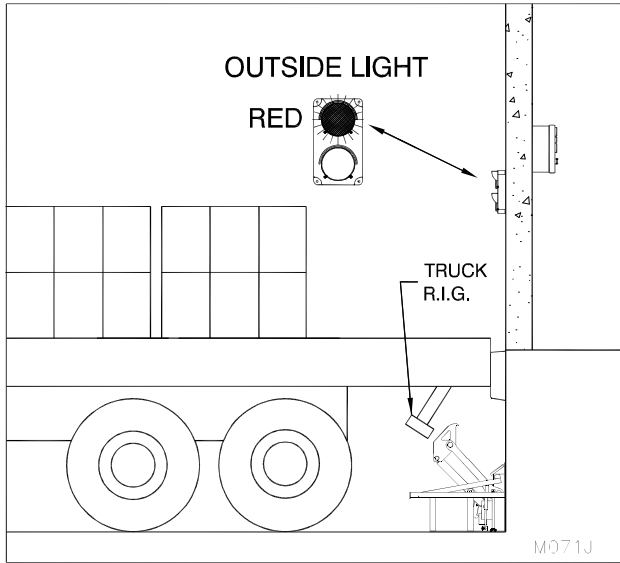
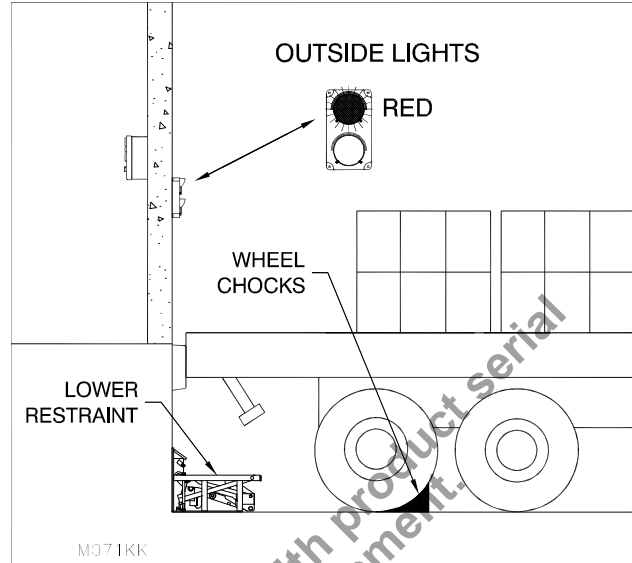

**Figure 24: Set selector switch so inside green light is illuminated indicating safe to load**
**Figure 25: Driver Signal**
5. Turn the switch and the inside green light on the control panel and the outside red light must be illuminated (see “Figure 24: Set selector switch so inside green light is illuminated indicating safe to load” on page 21 and “Figure 25: Driver Signal” on page 21) while the inside red light on the control panel and the outside green light must not be illuminated.